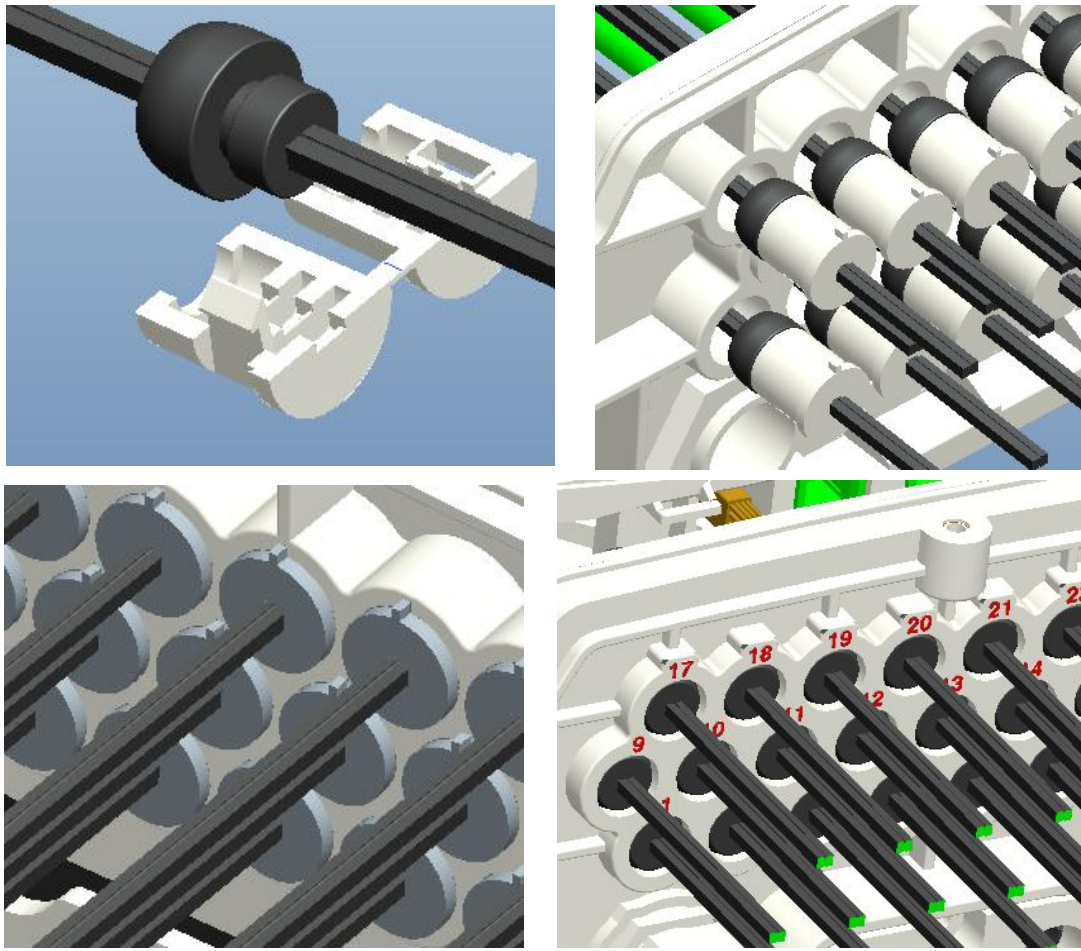

Figure 5
3.6 Make a Field Assembly Connector in the drop cable, and through drop cable out hole into the distribution box, and then plug in the adapter, forming pathway and optical splitter output fiber. Put the drop cable in the cut sealing ring, and then use the drop cable fixing seat fixed. At last, pressed the drop cable sealing ring into the drop cable hole, can ensure the drop cable fixing and sealing. See Figure 5